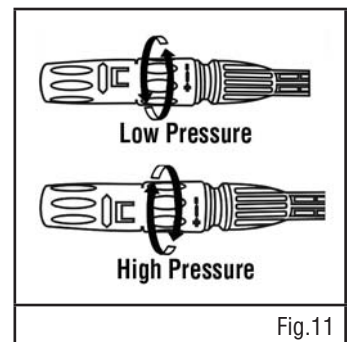

Fig.11
2. Adjust the nozzle to low-pressure setting to apply the detergent. (Fig. 11)